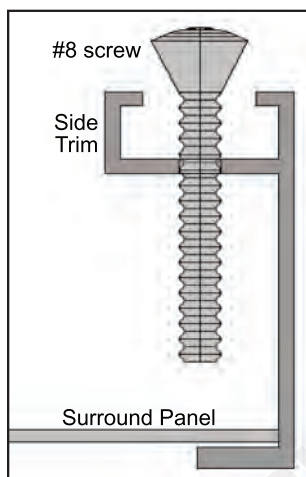

Figure 53: Screw to hold the trim against the surround.
3. Slide the two (2) attached trim pieces onto the surround panel.
6. On the side trims, there are holes 2" (50 mm) from either end. Use a Phillips screwdriver to place a #8 screw 1 1/4" long in each hole and tighten (refer to Figure 53). This will keep the trim tight against the surround.